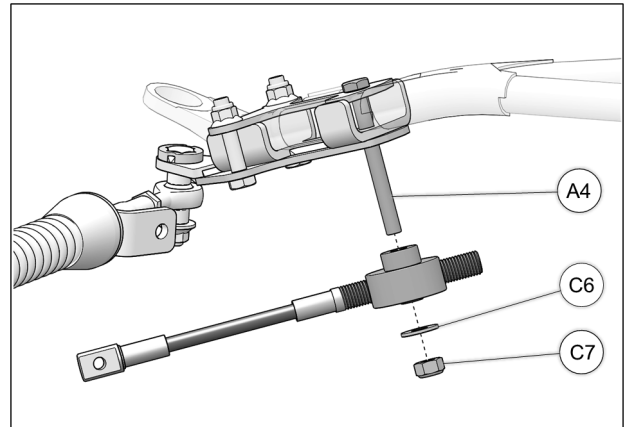

Fig. 23
14. Slip steering limiter cable assembly over M10x100mm bolt (**A4**) previously installed in step 5. Use supplied washer (**C6**) and nut (**C7**) to secure steering limiter assembly in place. Tighten nut to 50 N•m [37 lb•ft]. Refer to Fig. 23